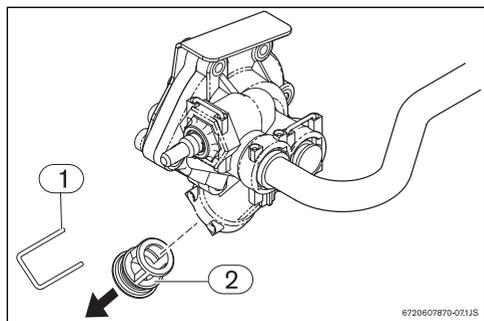

Fig. 25 Drain plug and filter location
- ▶ Remove the retaining clip from threaded bushing (Fig. 25, [pos. 1]).
- ▶ Remove threaded bushing (Fig. 25, [pos. 2]) from water valve.
Shut off the installer supplied cold water isolation valve to the heater. If one is not installed, install before proceeding. Open the nearest hot water tap to drain the plumbing lines. Position a bucket under the heater's water valve assembly to catch any water that may drain from the heater. Remove the filter retaining pin located at base of water valve (→see Fig. 25). Remove the threaded bushing to access the cylindrical filter inside. Remove filter, clean with water and inspect for damage. If the filter is at all damaged, it should be replaced.